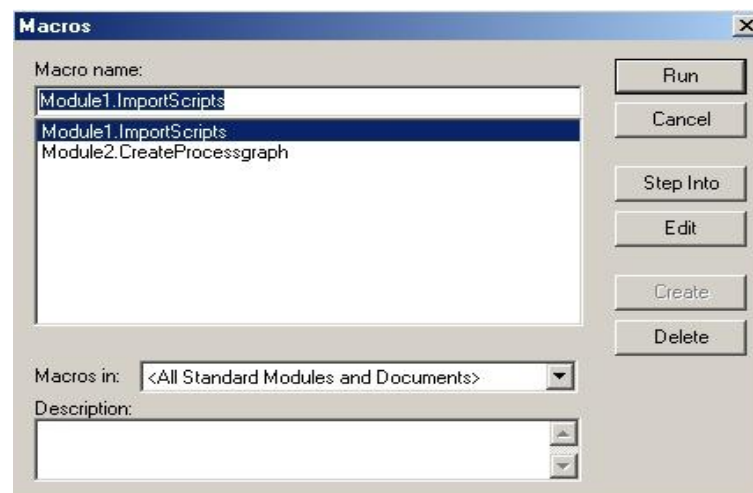

Figure 28: Macros Dialog – Project-Wide Selection
- 4) In the **Macros** dialog, you can select created macros for the execution project-related and project-wide using **Macros in**. Please refer to the Figure 28.